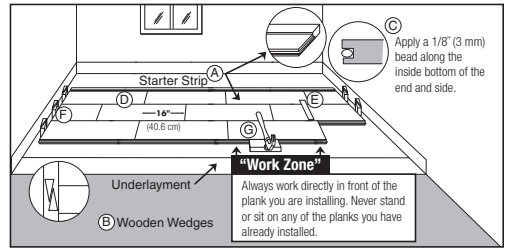

Figure 14
- Select the first board. All installations should begin with the groove side against the wall using the longest boards available. Apply a continuous 1/8" (3 mm) glue bead to the inside bottom of the groove on the end of the board. Do not apply glue to the groove side at this time (Item C, Figure 14). Products with the end tongue on the left should be installed right to left, opposite tongues should be left to right. (Item D, Figure 14). If a sacrificial board was used DO NOT glue the first row to it.
- Complete the first row. Cut the last board allowing for 1/2" (13 mm) clearance between the wall and the floor. (Use the remaining end of the cut board as a starter board for any row following row three). Install a wedge on the end of the board between the hardwood flooring and the wall, allowing 1/2" (13 mm) expansion space. Avoid installation of any boards shorter than 16" (40.6 cm) in the first four rows. (Item F, Figure 14).
- Use a pull bar to pull the last board into place from the opposite end. Install wedges into the gap and tighten (Item B, Figure 14).
- Cut or use a shorter board for the first board of the second row. Start the second row by applying a 1/8" (3 mm) bead along the inside bottom of the end and side groove of the new board. Install the first board of row two. Apply a bead of glue to the inside bottom of the end and side groove of the next board and install. When installing boards together, use a tapping block against the tongue, not the groove (Item G, Figure 14). Tap the boards into place by tapping with a hammer on the tapping block. DO NOT tap on the edge directly with the hammer. Complete the second through fourth rows using this technique. Insert wedges on the ends, as necessary, to restrain the movement of the floor.